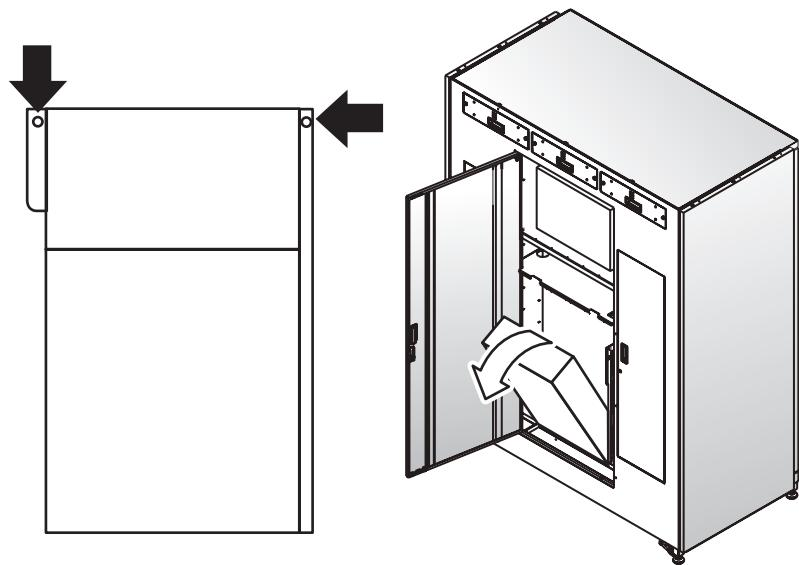

Figure 4: Accessing the electronics bay
4. Loosen the two thumbscrews at the top of the electronics bay frame. Carefully tilt the electronics bay outward, as shown in Figure 4.